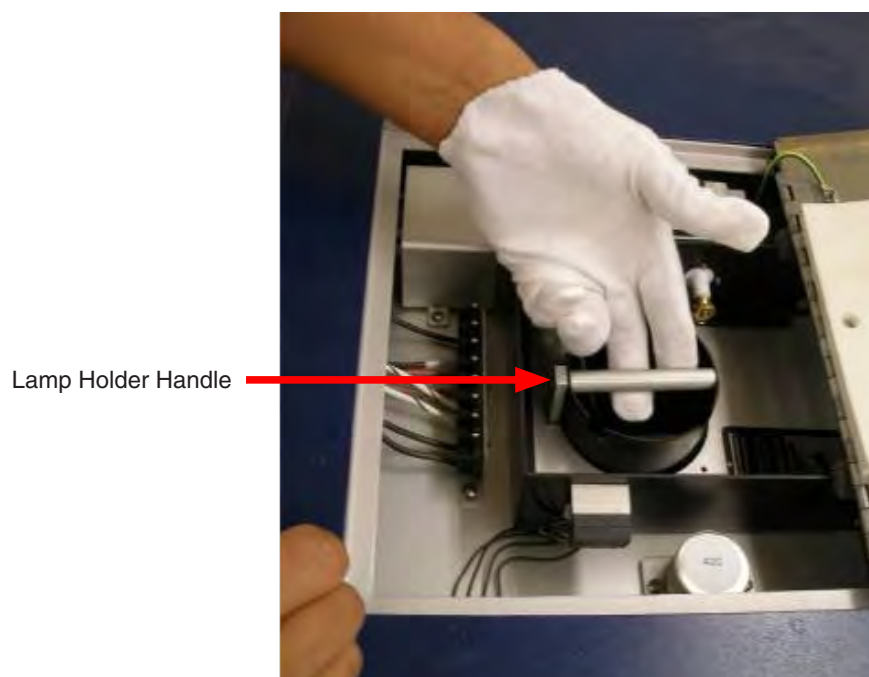
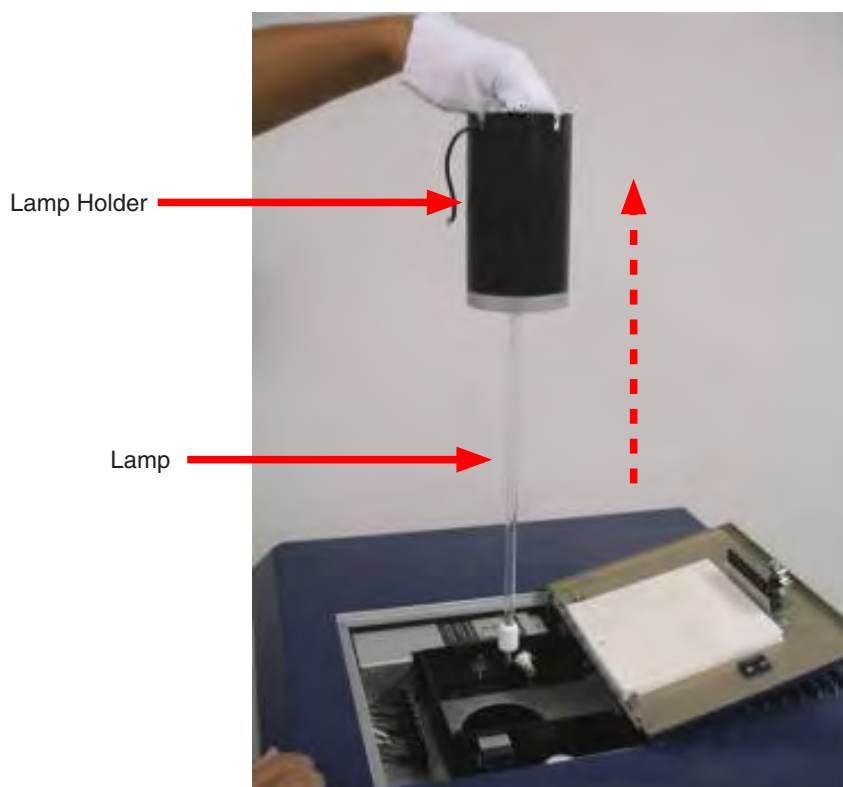

Figure 16.1b: Carefully pull up on the lamp handle.
Figure 16.1c: Pull the lamp straight up to remove from the tester.
4. Carefully pull straight up on the handle to remove the lamp and holder from the tester (Figure 16.1b and Figure 16.1c). If the lamp does not come out with the holder, then reach down and carefully pull up on the lamp itself.